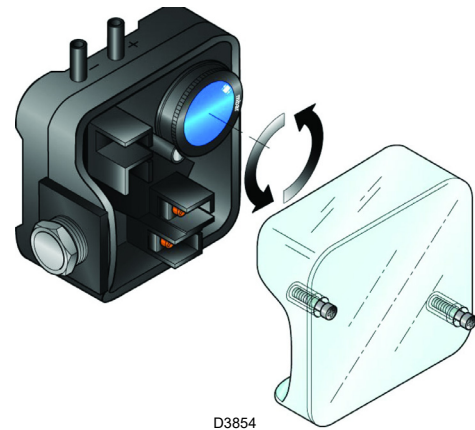

Fig. 44
- Adjust the air pressure switch to the zero position of the scale (Fig. 44, page 35).
Adjust the air pressure switch (Fig. 44) after having performed all other burner adjustments with the air pressure switch set to the min. of the scale.